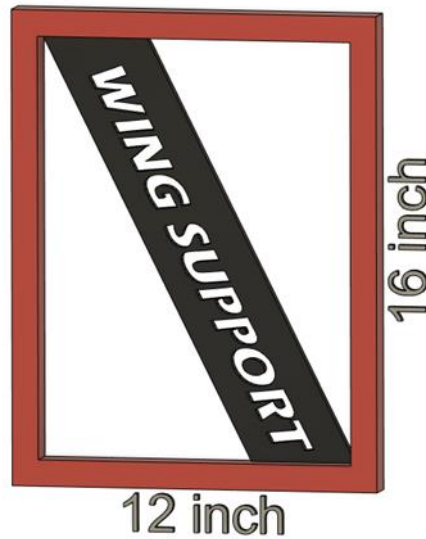

Figure 15
- C. The size of each standoff and endplate may not exceed 12x16 inches dimensionally in size per piece. Refer to Figure 15.